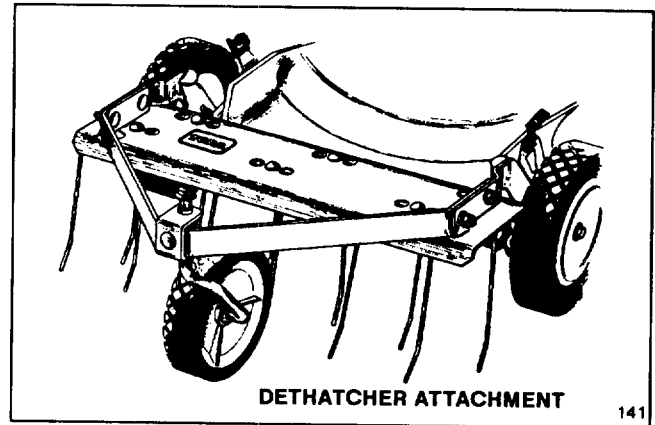

Figure 29
**3. Dethatcher Kit, Model 59131**—Installs in minutes. Front mounted for easy maneuverability. As spring tines scratch and vibrate through the grass, thatch is loosened and cut and recut by the mower (Fig. 29).